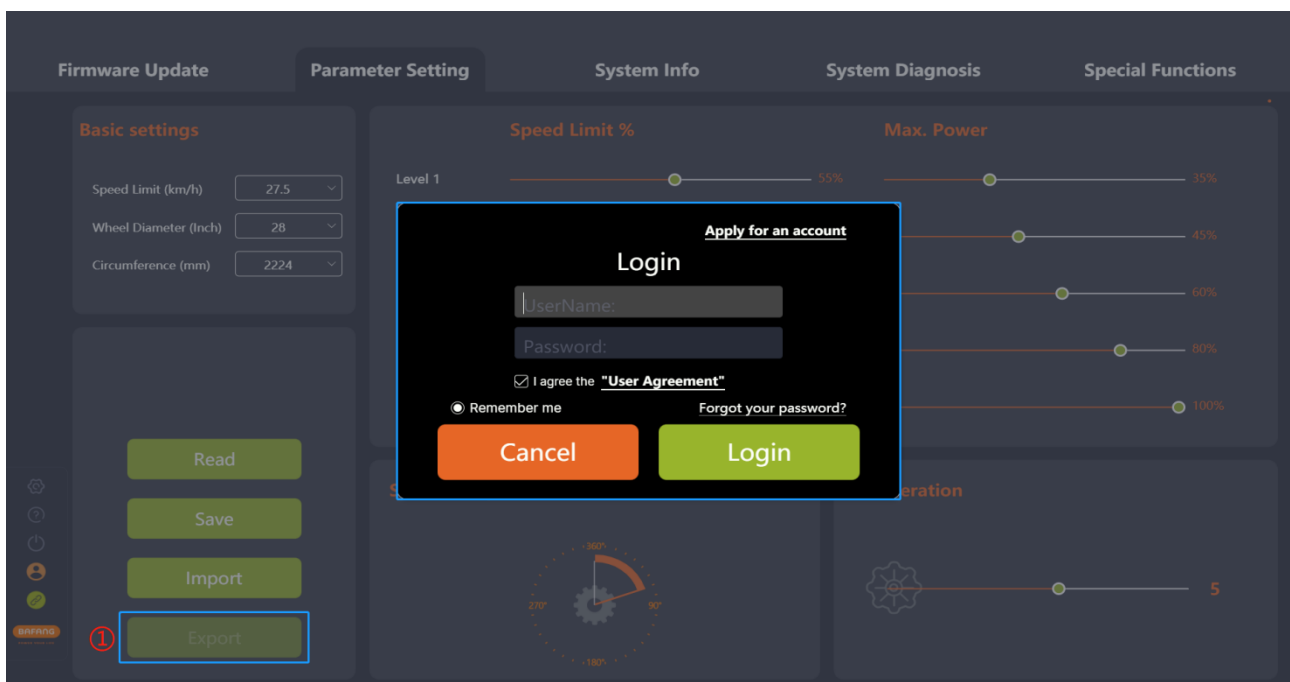

Fig. 5-9 Export
- (1) Click the “Export” icon. If you are not logged in, the login interface will pop up, prompting you to log in (Fig.5-9).